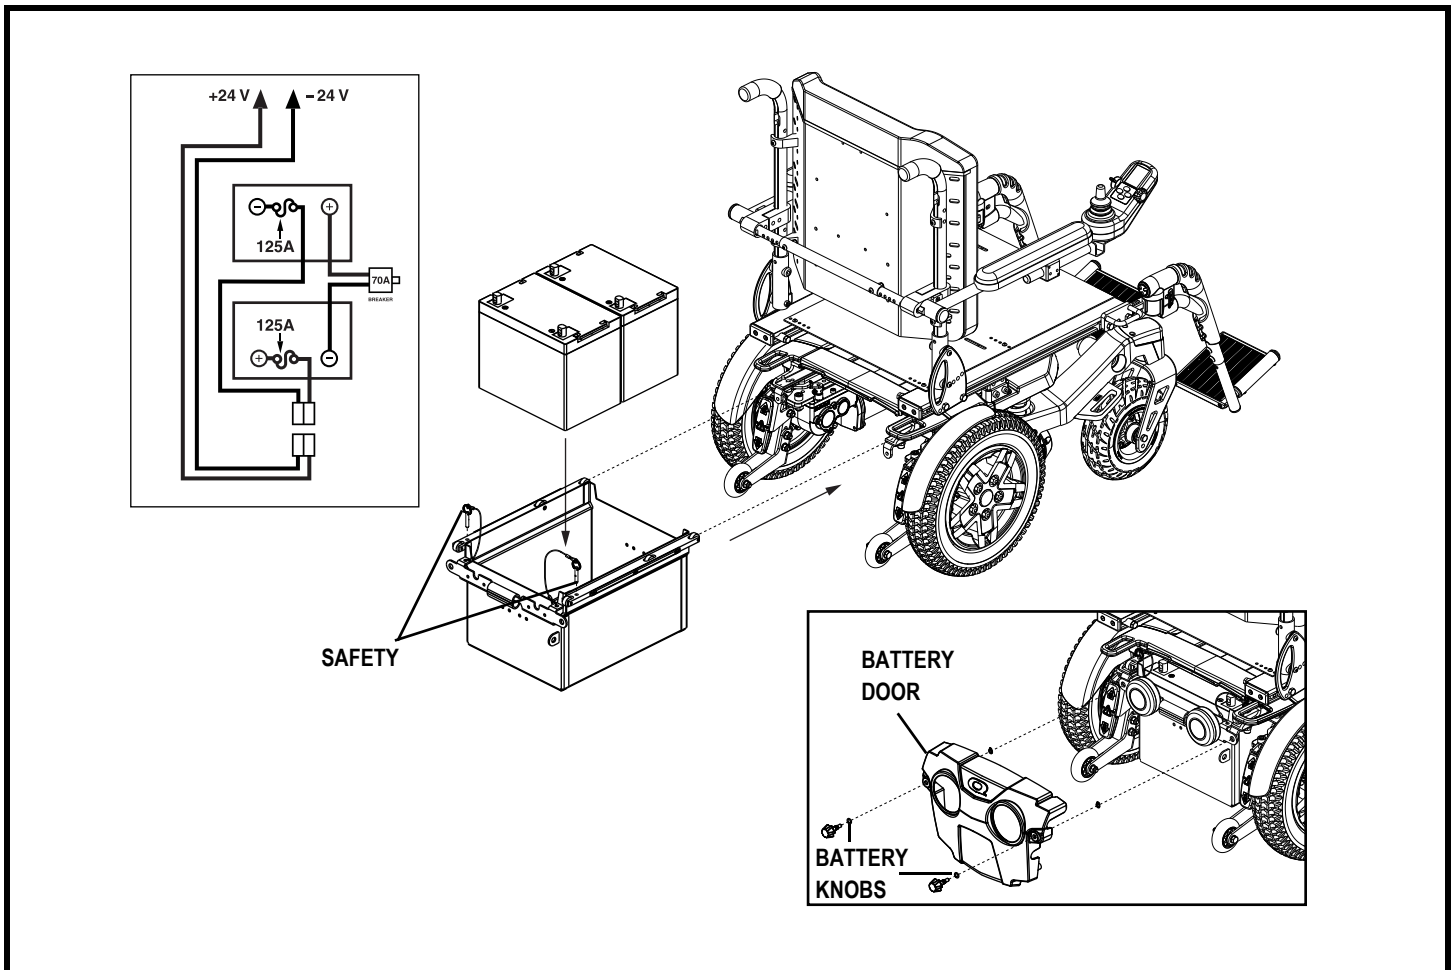

Figure 20. Battery Replacement
A battery wiring diagram is printed on a decal located on the battery door. See figure 20. Refer to the specifications table for correct battery specifications.
3. Loosen the battery knobs and remove the rear battery door. **See figure 20.**
4. Pull up and remove the battery tray safety pins. **See figure 20.**
5. Locate the battery quick disconnect on the frame and disconnect it. **See figure 20.**
10. Connect the battery quick disconnect according to the battery wiring diagram label located on the frame. **See figure 20.**